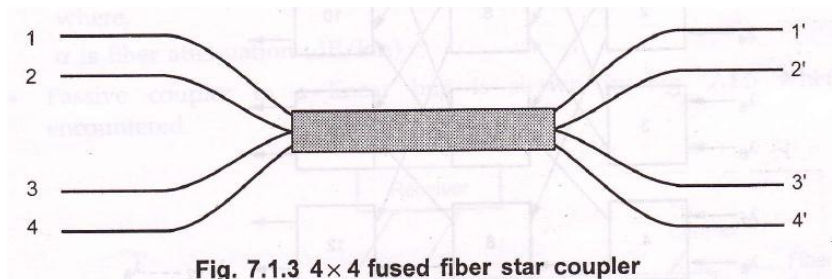

Fig. 7.1.3 4 x 4 fused fiber star coupler
- The fiber fusion technique is popularly used for producing N x N star coupler. Fig. 7.1.3 shows a 4 x 4 fused star coupler.